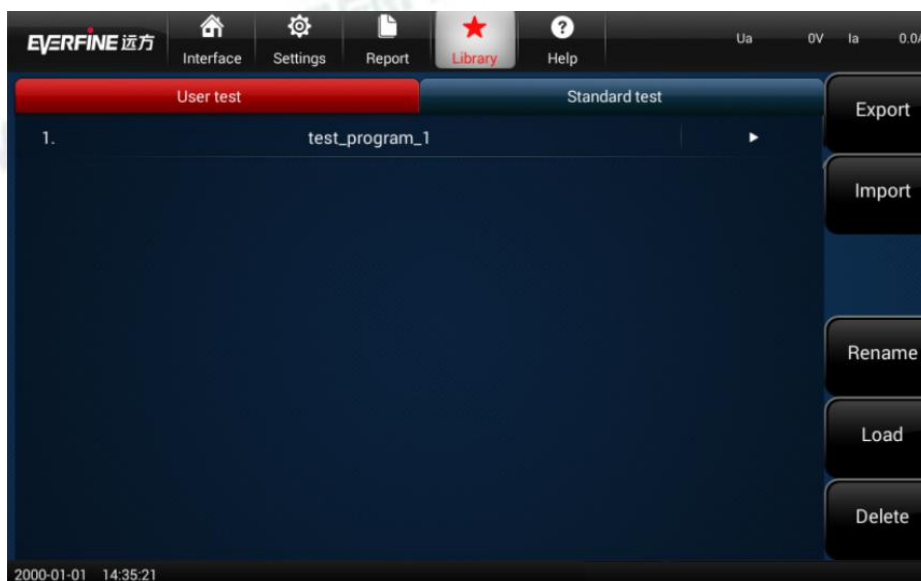

Fig 4.10 User Library interface 1
| ④ "Preview" button | The preview interface is shown in Fig 4.10; |
Click "Program Library" in Fig 4.1 to enter the user program library interface, as shown in Fig 4.10, showing all test programs saved in the current instrument. You can switch between two different libraries by using user programs and Standard Programs at the top. Click "►" to the right of the program name to display the test steps in the current program, as shown in Fig 4.11.